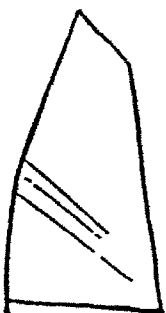

fig. 34
2. If there is a concentration of stripes in a certain area, the mast is too soft, or the sail does not have the right luff-curve. (fig.34)